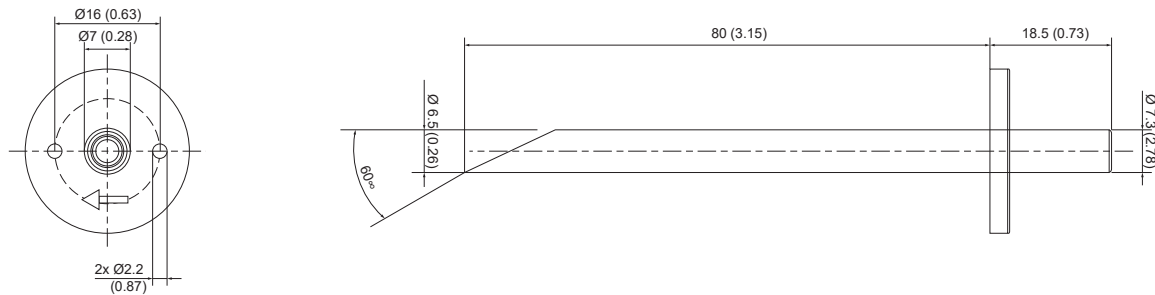

Fig. 5 Dimension of pressure connection nipples
- To connect the hoses at a duct use the pressure connection nipples (included in the scope of supply). Use a $\varnothing 7.5$ mm (0.30") drill for the holes regarding the dimensions in Fig. 5.